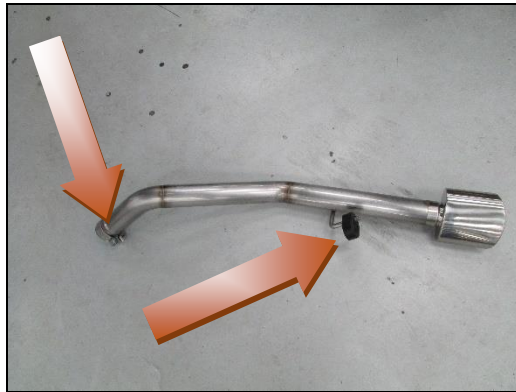

Figure 12
5. On the right side Blackheart tailpipe, install (x1) supplied rubber isolator and (x1) supplied band clamp (**Figure 12**).